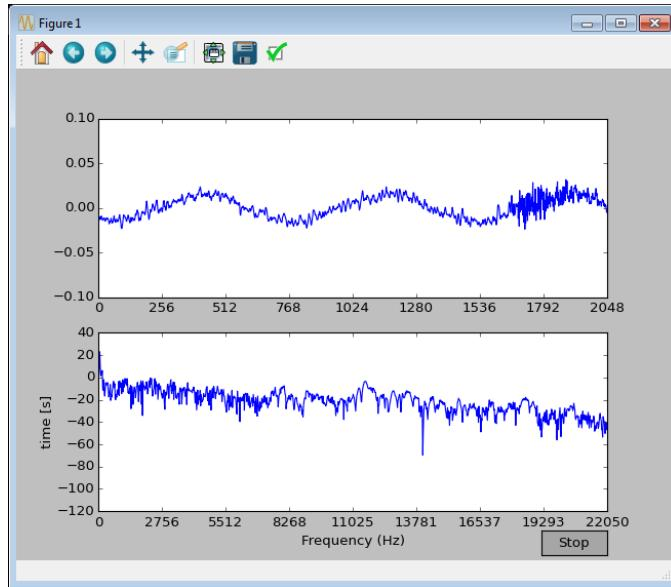

Figure 18: Screen capture of the microphone signal capture program.
- (a) If you are using the lab computer, you can run the program from the Spyder IDE that comes with the Anaconda Python distribution. If you do so, make sure that you run the program under the Python console rather than the IPython console. You could also run the program from the command line by “python real-time_audio_analysis.py”. You should expect to see a new window popping up that displays the sampled input signal and its frequency spectrum in real time (Fig. 18).